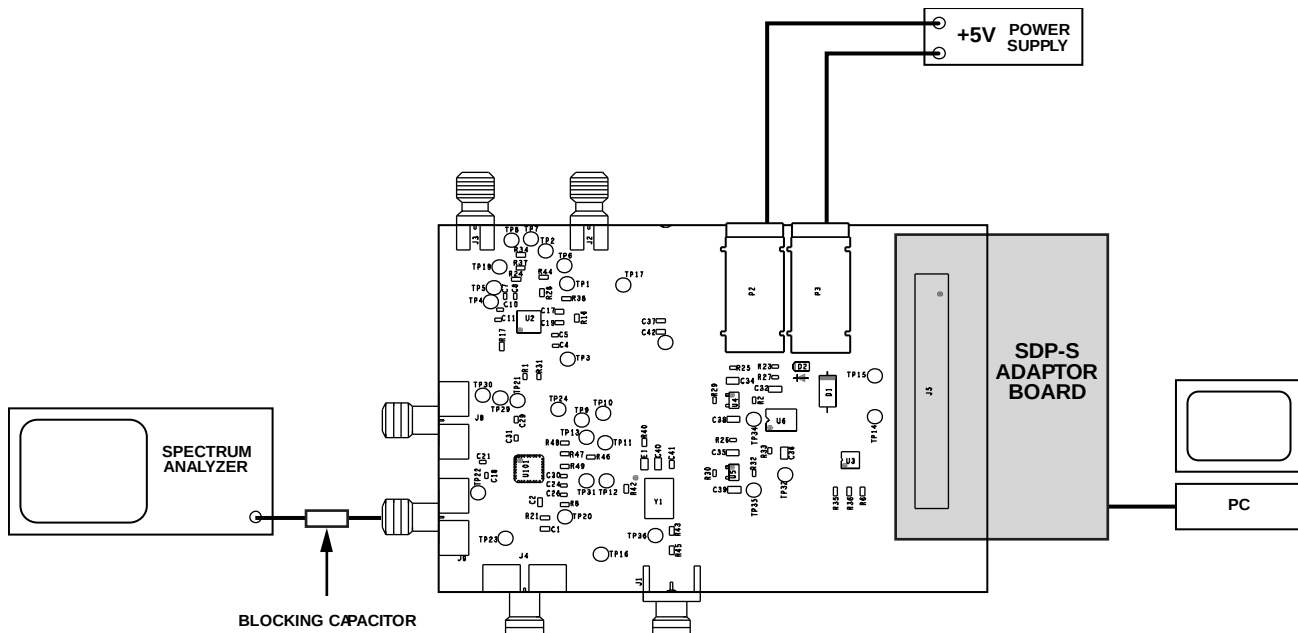

Figure 6. Typical EV-ADF5901SD2Z Evaluation Board Setup
6. In the ADF5901 **Controls** tab, click **Initialize ADF5901** to power up and calibrate the ADF5901. See Figure 6 for the suggested setup.